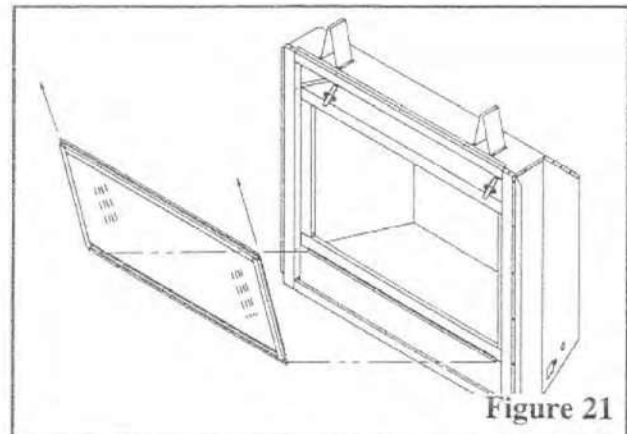

Figure 21
3. Unlock the latches of the glass door and hold the top sides firmly as it opens toward you. Lift the glass door up with a slight angle toward the front as shown in Figure 21.